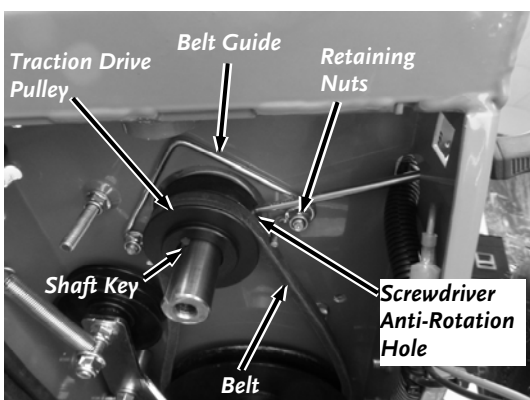

Figure 36
8. Remove the nuts retaining the belt guide with a 1/2" socket (**Figure 36**).
- The belt is on the inside of the belt guides (**Figure 36**).